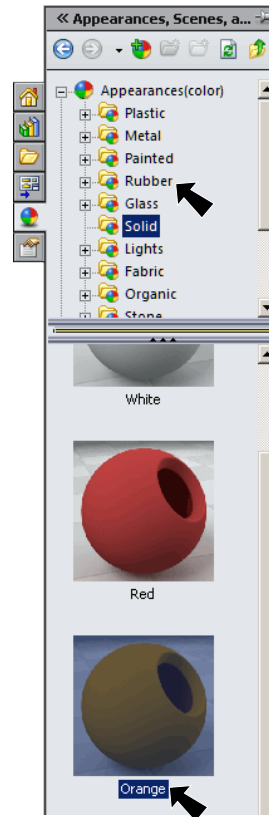

Fig. 16
Step 8. In the Appearances Task pane, expand **Solid** and in the lower pane select **orange**, **Fig. 16**.